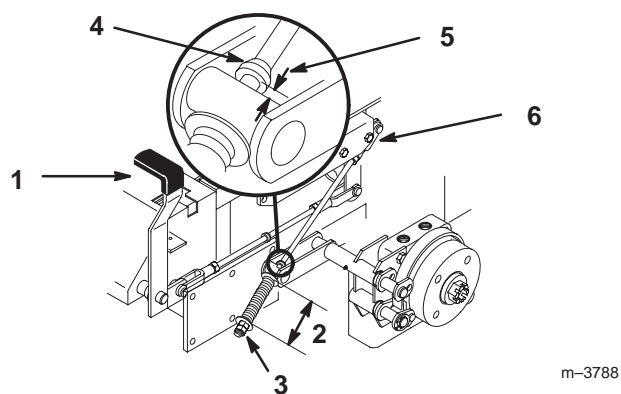

Figure 55
2. Measure the length of the spring. Measurement should be 2-3/4 inch (70 mm) between washers (Fig. 55).
3. If adjustment is necessary, loosen the jam nut below the spring and tighten the nut directly below the yoke (Fig. 55). Turn the nut until the correct measurement is obtained. Tighten the two nuts together and repeat on opposite side of unit.
- A. Measure the distance between the trunnion roller and the collar on brake rod. Measurement should be 3/16-1/4 inch (5-7 mm) (Fig. 55).
6. If adjustment is necessary, loosen the jam nut directly below the yoke. Turn the bottom rod until the correct measurement is obtained (Fig. 55). Tighten jam nut at yoke